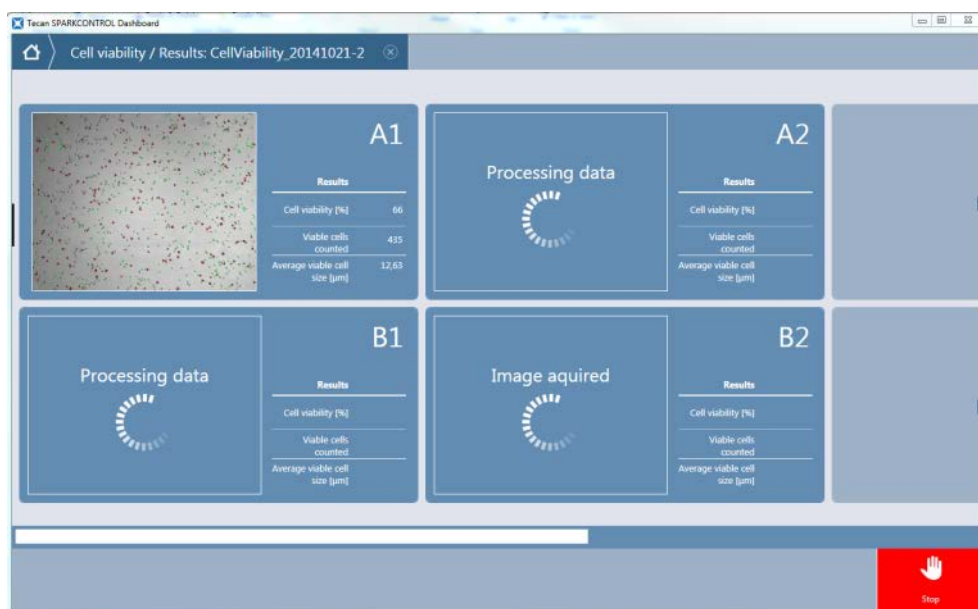

Figure 106: Measurement progress window
- Start the cell viability measurement by selecting **Start**. The incoming images and data are displayed as soon as they are available (Figure 106: Measurement progress window).